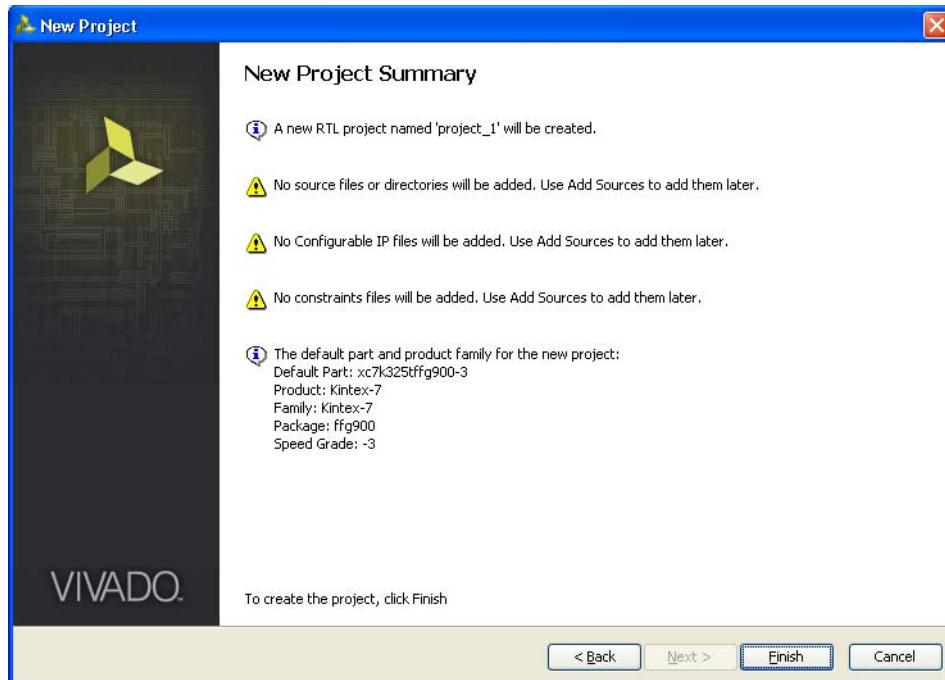

Figure 1-11: New Project Summary
9. Click **Next** to open the New Project Summary page (Figure 1-11). This includes the summary of selected project details.